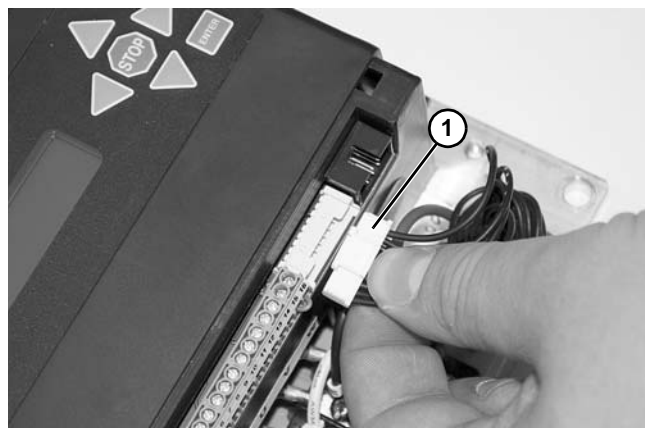

Figure 36
3. Unplug connector (**Figure 36, item 1**) from controller.